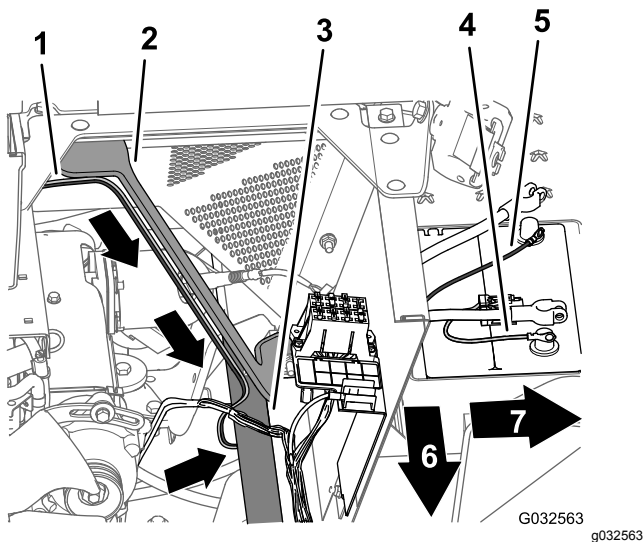

Figure 111
3. Route the 165 cm (65 inch) branch of the wire harness down along the left support for the engine shroud and under the left frame tube (Figure 111).
4. Route the 50 A fuse and the positive- and negative-ring terminals of the 165 cm (65 inch) branch of the wire harness to the top of the battery (Figure 111).